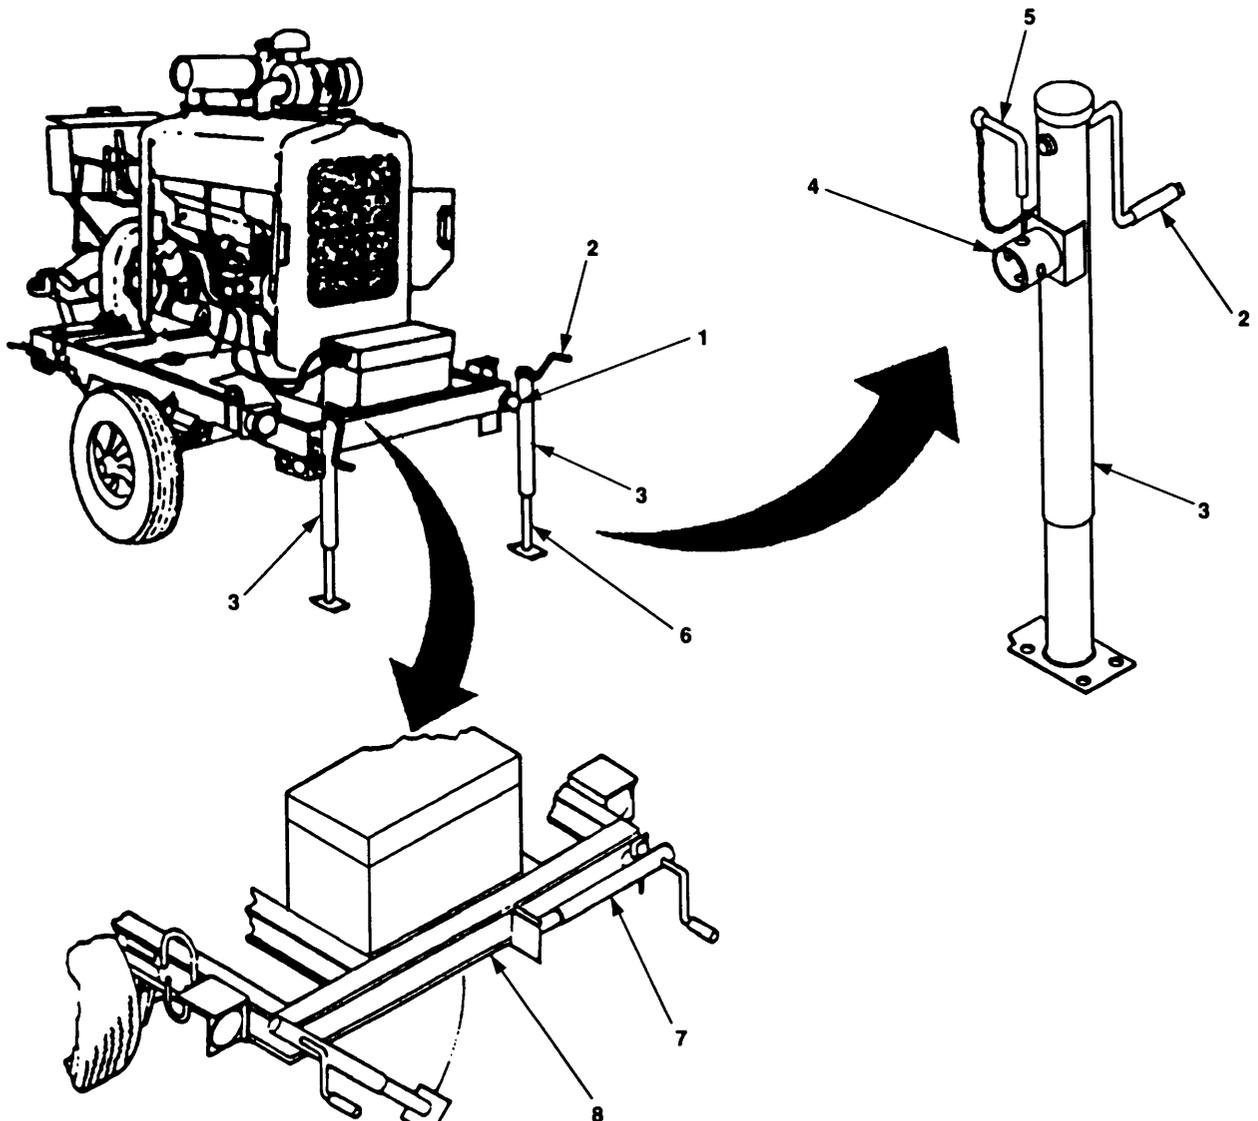

Figure 2-36. Secure Rear Jacks for Movement. (Model 609-A shown)
2.7.2.1 **Securing Rear Jacks for Movement.** Refer to Figure 2-36 and secure rear jacks for movement as follows: